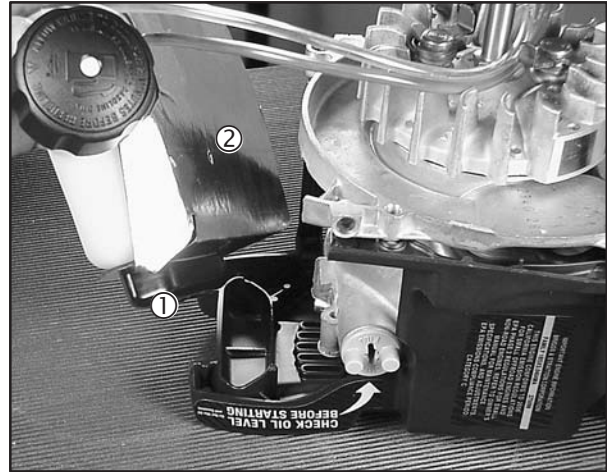

Fig. 25
2. Remove fuel tank, Fig. 25.
3. Remove rubber tank supports (1).
4. Remove heat shield (2).